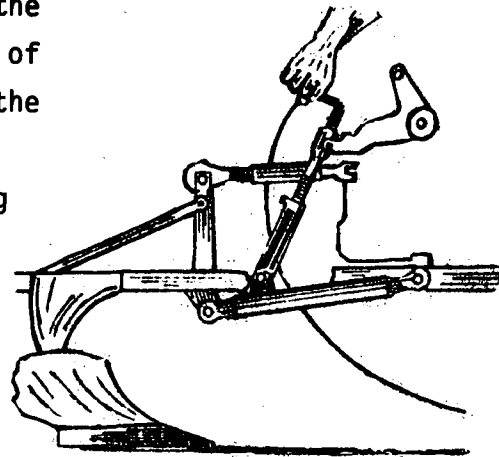

Fig. 6
- c) Adjust crosswise by cranking the levelling box until the frame of the implement is parallel to the ground (Fig. 6).